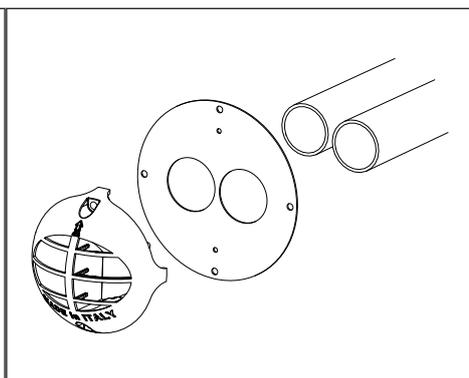

Fig. 18
- If the 35 mm diameter pipes run parallel, use the standard intake/exhaust terminal (Fig. 18).